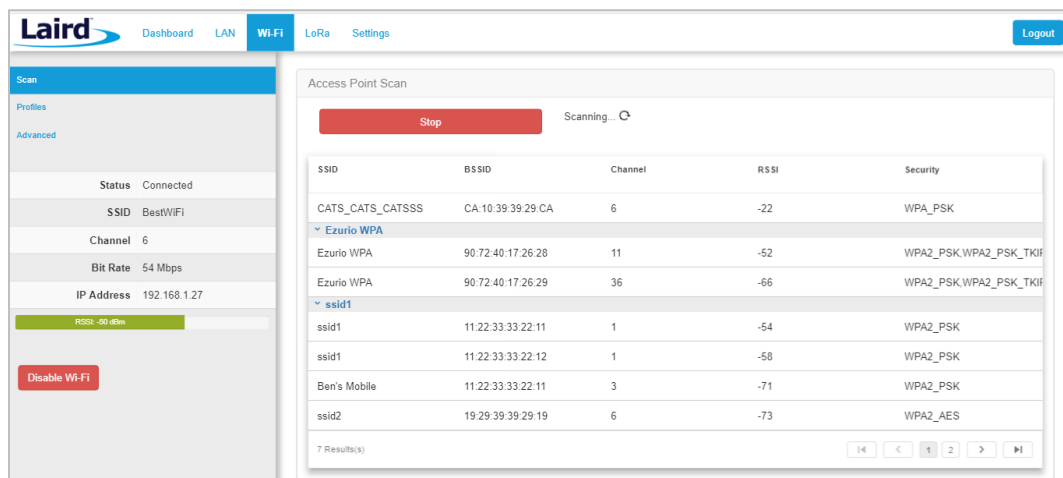

Figure 14: Scan function
**Connect to a Wi-Fi network** – click **Scan** to scan for nearby Wi-Fi networks. Scanning continues until you click **Stop** or click on one of the listed scan results (Figure 14).